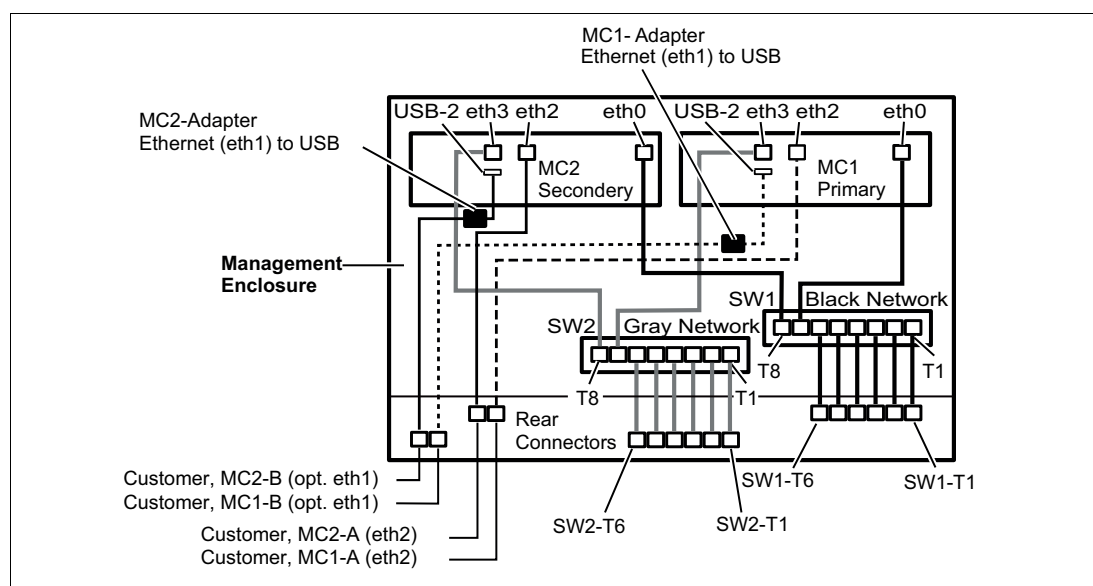
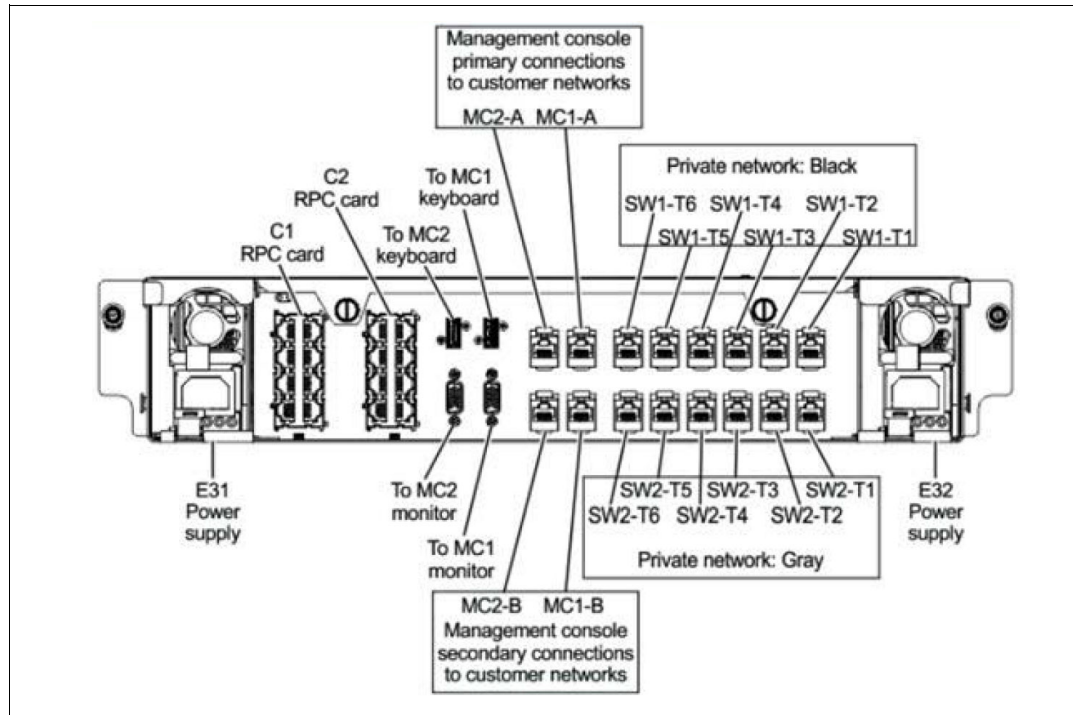

Figure 6-3 ME and MC internal network connections
Figure 6-4 ME external connections
Figure 6-3 shows these internal and external network connections.
**Important:** The internal Ethernet switches that are shown in Figure 6-3 and Figure 6-4 on page 173 (the black and gray private networks) are for DS8900F internal communication only. Do not connect these ports directly to your network. There is no connection between the customer network interfaces and the black and gray network to keep them isolated.